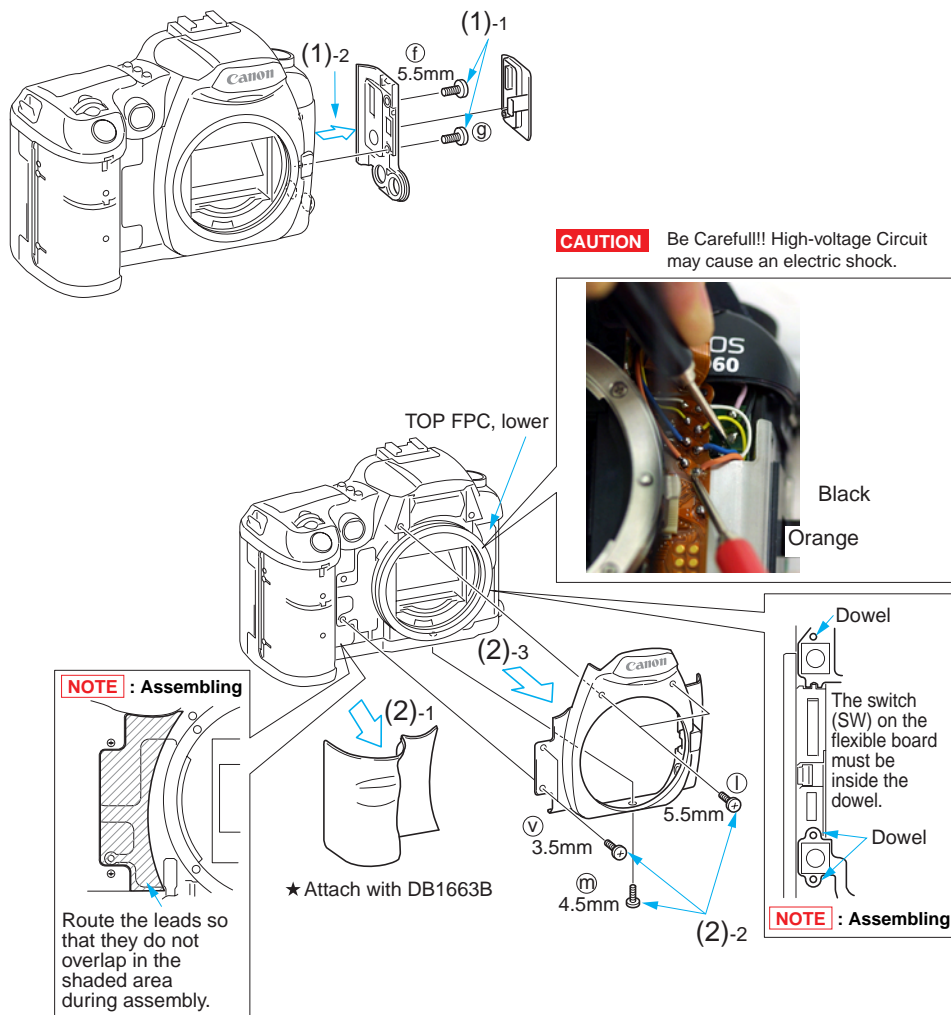

Fig. 3-7 Terminal cover and front cover
3. The flexible cable has holes for insertion and removal. Use them for removal and insertion by inserting the tweezers into the holes as required. (Fig. 3-7)